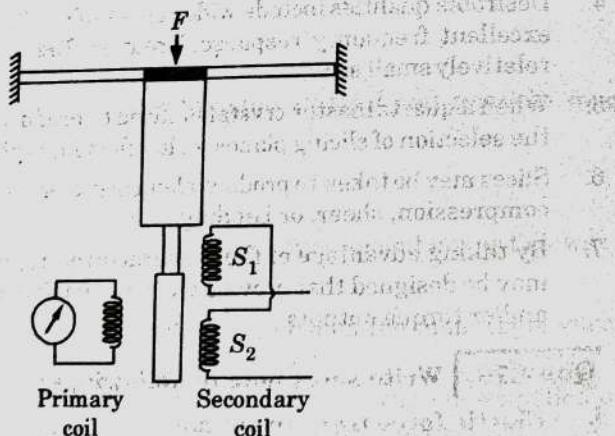

Fig. 4.16.2. LVDT force transducer.
- LVDT can be used together with elastic elements such as diaphragm to produce LVDT force transducer. The extended core of LVDT is fixed to the diaphragm as shown in Fig. 4.16.2.